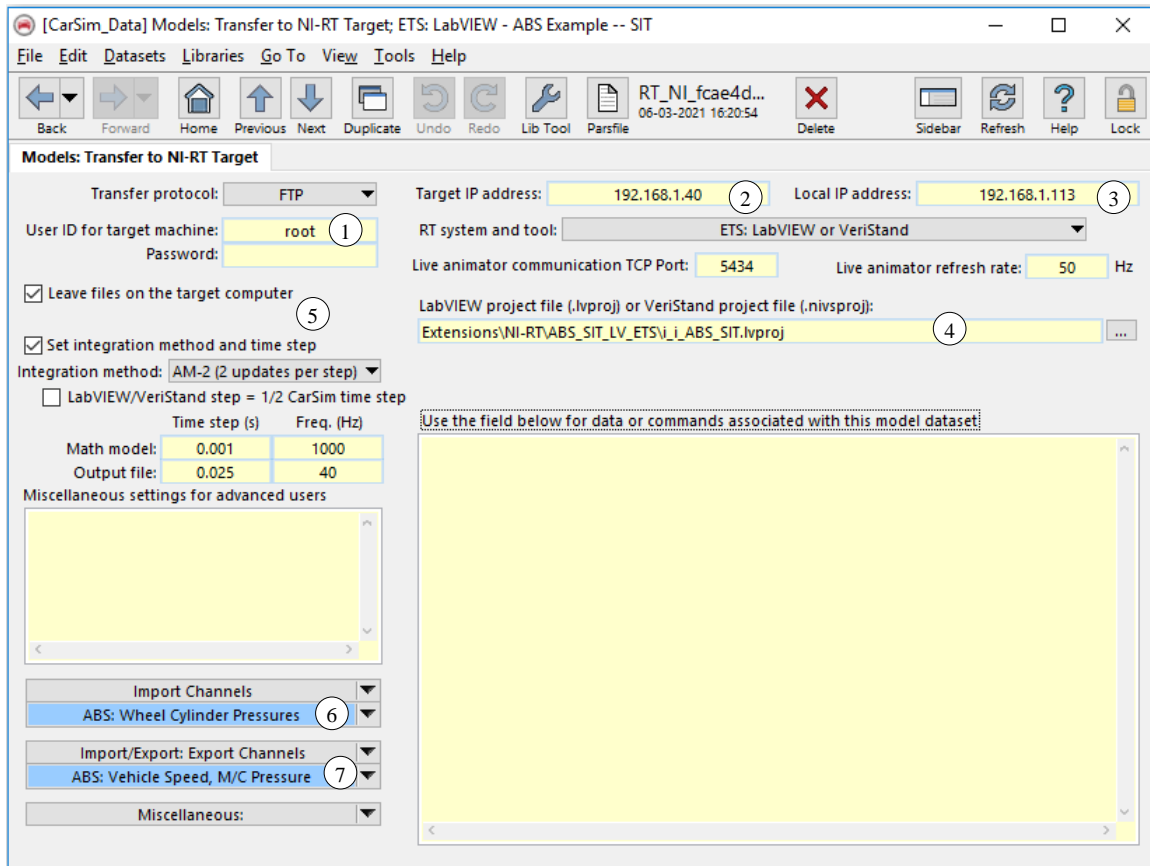

Figure 23. Dataset for NI RT ABS example.
3. Click on the new blue link with the name of the dataset you just named to go to the Models dataset screen (Figure 23).